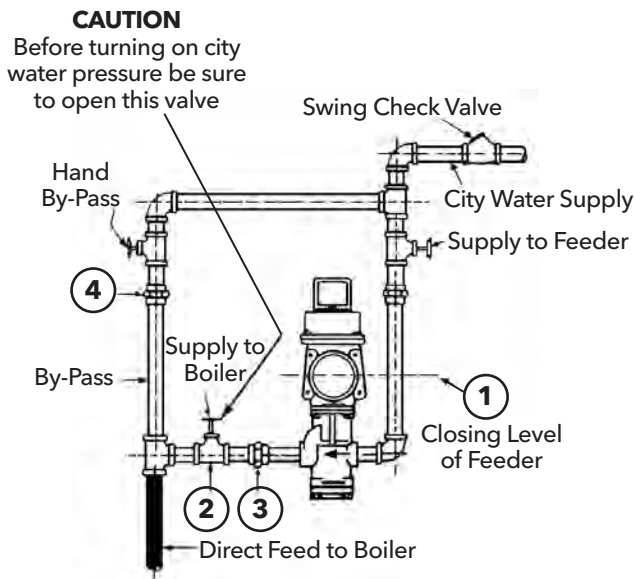
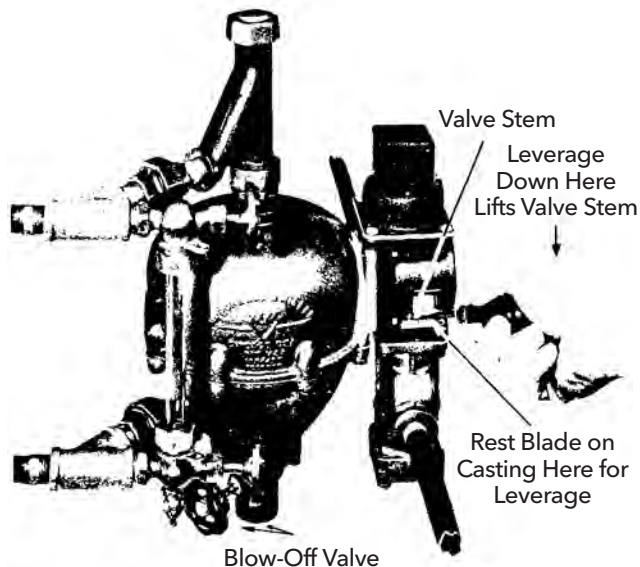

Figure 90
Figure 91
Figure 90 shows the piping around a typical water feeder. To test the feeder, the water level in the boiler must be higher than the closing level of the feeder. Valve (2) in the diagram should be run closed and union (3) should be broken.
If the feeder is closed off, no water should trickle out of the broken union. A continuous trickle indicates a leaky valve in the feeder. This is sometimes due to dirt on the valve seat. It may be possible to flush the valve seat. A screwdriver used as a pry under the float linkage lifts the stem. Working the stem up and down in this manner often washes away the dirt from the seat. **Figure 91** shows how this is done. If this doesn't stop the leakage, a replacement valve assembly should be installed.
The union (3) in **Figure 90** should be broken. Manual opening and closing of the feeder valve as shown in **Figure 91** should be easily accomplished. Each time the valve lifts, a full stream of water should rush from the broken union. If this doesn't take place, the blow-off valve under the float chamber should be opened.